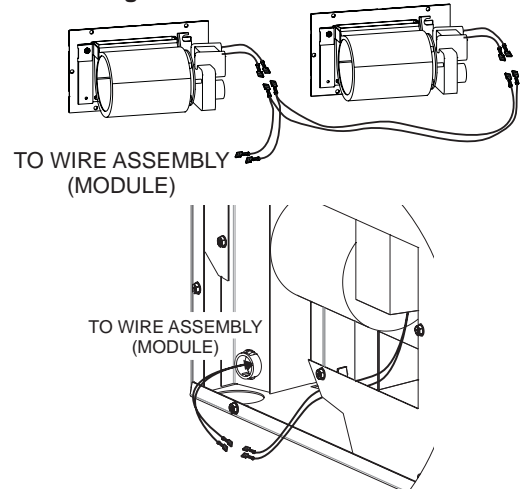

Figure 5
4. Remove protective connectors on Wire Assembly from fireplace and discard. Connect Wire Harness to both blowers and the other end to the Wire Assembly supplied with the fireplace. **See Figure 5.**